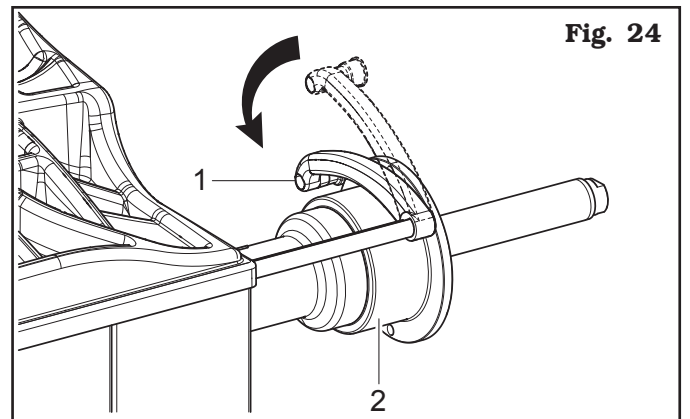

Fig. 24
REPEATEDLY BRINGING THE CALIPER ARM (FIG. 24 REF. 1) IN CONTACT WITH THE MANDREL (FIG. 24 REF. 2), THE PROGRAM WILL CYCLE FROM "STATIC" TO "STATIC 1" TO "2 STATIC" THEN RETURNING TO THE BEGINNING.
REPEATEDLY BRINGING THE CALIPER ARM (FIG. 24 REF. 1) IN CONTACT WITH THE MANDREL (FIG. 24 REF. 2), THE PROGRAM WILL CYCLE FROM "ALU-S" TO "ALU-S1" TO "ALU-S2" THEN RETURNING TO THE BEGINNING.
FIRST MOVEMENT: to pass from static (STAT) to ST1 (STATIC 1) in automatic mode, lean the gauge arm (Fig. 24 ref. 1) against the bell (Fig. 24 ref. 2).
SECOND MOVEMENT: lift and lower again the gauge arm to select ST2 (STATIC 2) mode (see Fig. 24).
To pass from static ALU-S to ALU-S1 in automatic mode, lean the gauge arm (**Fig. 24 ref. 1**) against the bell (**Fig. 24 ref. 2**).
Lift and lower again the gauge arm to select ALU-S2 mode (see **Fig. 24**).